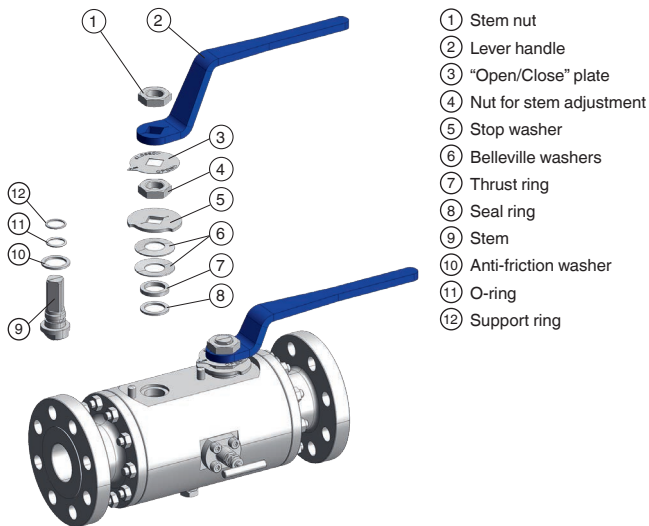

Fig. 2 - Replacement of stem seal
2. Position the anti-friction washer (fig. 2, 10) on the stem (fig. 2, 9).
3. Use a mounting aid to insert the O-ring (fig. 2, 11) on the stem (fig. 2, 9) to avoid damage through the thread.
4. Put support ring (fig. 2, 12), if any, on the stem (fig. 2, 9).
6. Insert the stem (fig. 2, 9) carefully into the stem bore. Avoid to damage the sealing of the stem and valve body.
14. Insert the sealing ring (fig. 2, 8) and the thrust ring (fig. 2, 7).
15. Insert the Belleville washers (fig. 2, 6), first the one with convex face down and secondly the one with convex face up.
16. Insert the stop washer (fig. 2, 5) and the nut for stem adjustment (fig. 2, 4) on the stem and tighten it.
17. If present, place the "Open/Close" plate (fig. 2, 3) on the stem.
18. Place the lever handle (fig. 2, 2) on the stem and apply a small amount of threadlocker on the stem nut (fig. 2, 1).
19. Hold the nut for stem adjustment (fig. 2, 4) with an open-ended spanner and tighten the stem nut (fig. 2, 1).